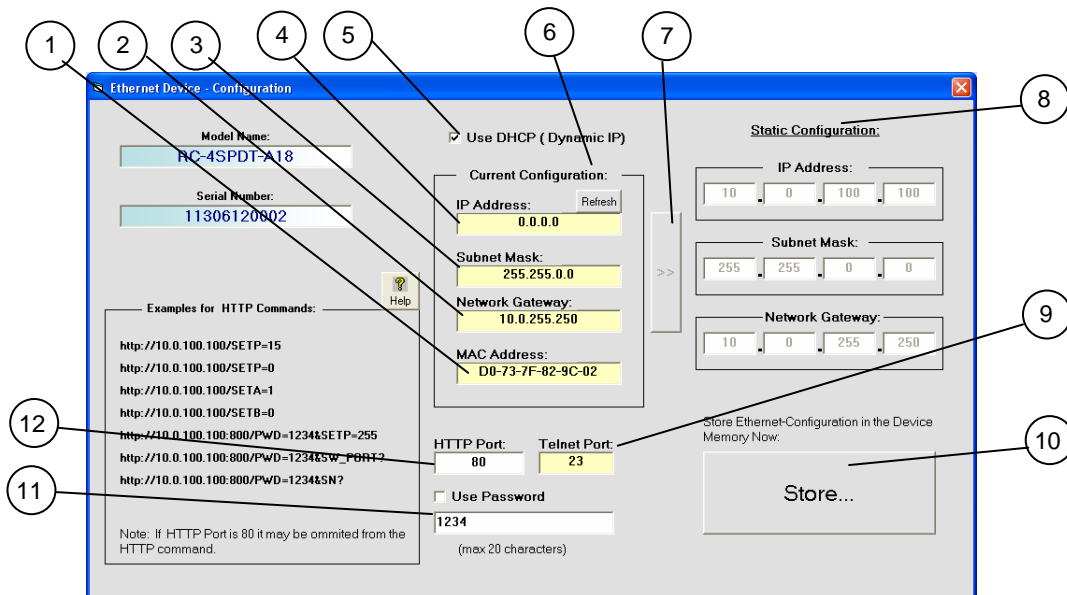

Figure 3.1.6: Ethernet Config. screen (showing factory default state)
3.1.7 **The Ethernet Configuration screen will** open showing the current configuration. Figure 3.1.6 is showing the factory default of the switch matrices. If these settings fit your local network, you do not need to access the setup before connecting the switch matrix to the network.